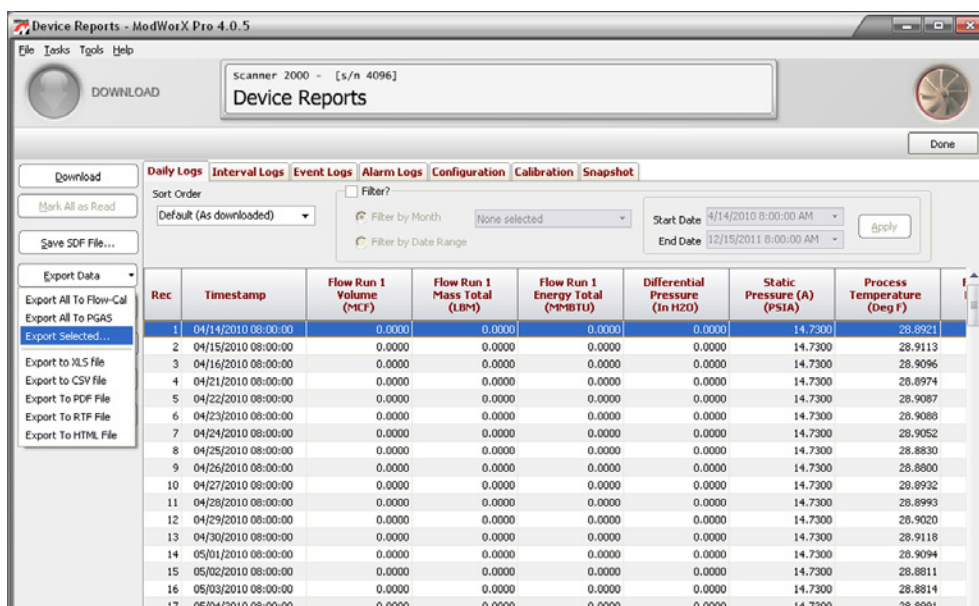

Figure 14.38
1. Click the **Export Data** button at the left of the screen and select **Export Selected** from the dropdown list (Figure 14.38).